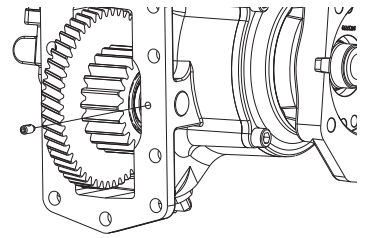

Figure 12 – Securing Input Shaft
19. Tap the input shaft (30) into position and install the set screw (34). Torque the set screw to 3 Ft. Lb. *See Figure 12*